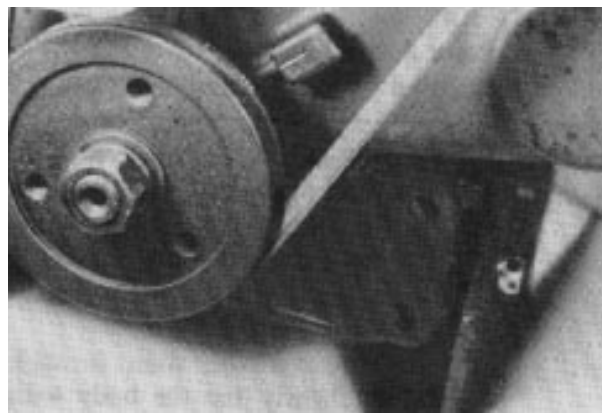

Figure 21
4. Slowly rotate the crankshaft counterclockwise from the flywheel end (normal rotation) until the IT marks (injection timing marks) on the crankshaft pulley are approximately 1/2 in. (21 mm) from alignment with the stationary pointer on the engine gear case (Fig. 21). Make sure the number 1 cylinder compression stroke is approaching by checking the push rods. Both push rods on the number 1 cylinder should be loose and the valves closed. If either push rod is tight, rotate the engine crankshaft one full revolution and inspect the push rods again.
7. Standard injection timing can be confirmed by the IT marks on the crankshaft pulley and the stationary pointer on the crankcase (Fig. 21).